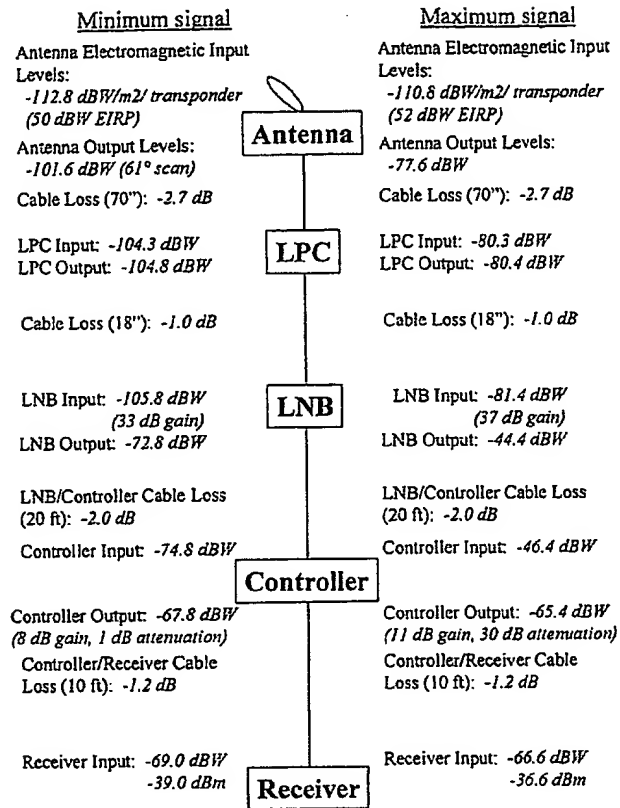

FIGURE 3-2 FAIRLINES SYSTEM RF ALLOCATIONS
The system RF allocations are as identified in Figure 3-2.
| J3 (SMA) | √ | BSS RF (LHCP) | RF Frequency Range: 11.7 to 12.7 GHz Signal Level: per figure 3-2 RF Impedance: 50 Ω | | J1-1 (SMA) |
| J2-2 (TNC) | √ | LNB Downconverted BSS RF (VP) | RF Frequency Range: 950 to 1450 MHz Signal Level: per figure 3-2 RF Impedance: 50 Ω | | J9 (TNC) |
| J3 (SMA) | √ | BSS RF (VP) | RF Frequency Range: 11.7 to 12.7 GHz Signal Level: per figure 3-2 RF Impedance: 50 Ω | | J1-1 (SMA) |